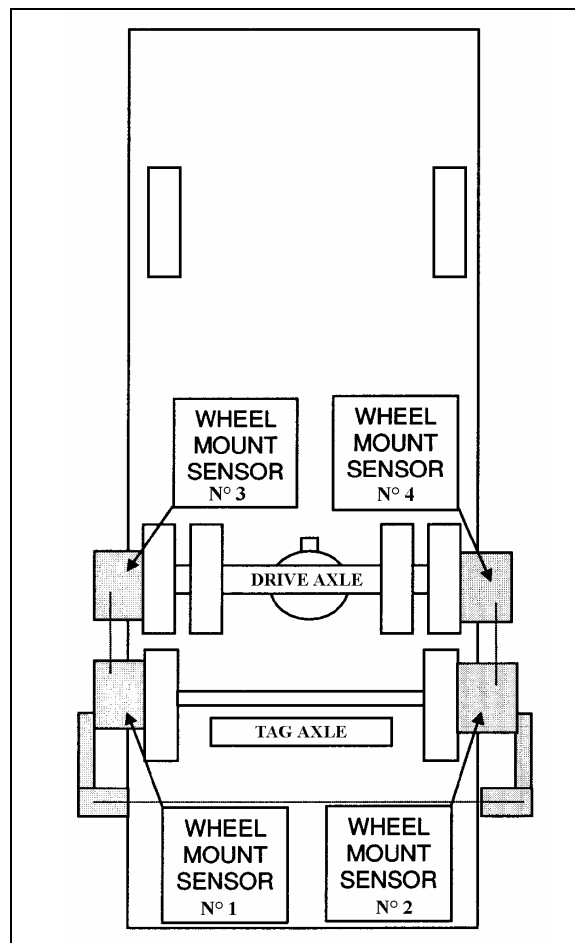

FIGURE 8: TAG AXLE ALIGNMENT
- Remove and reinstall all wheel mount sensors on the drive and tag axles (fig. 8);